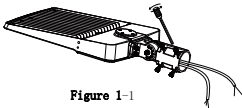

Figure 1-1
Step 1: Loosen the 4 screws on the bracket with a screwdriver and make sure that the bracket can fit into the light pole, Figure 1-1;